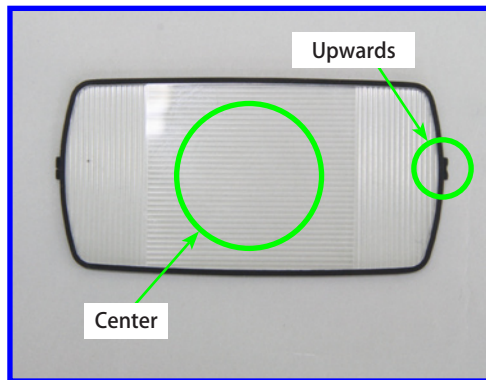

Fig. 027 Orientation of the Flash Panel Ass'y
- Install with the grooves in the center of the Flash Panel Ass'y facing the Flash Head Ass'y side and with the packing rib towards the Flash Head Cover (Upper). (Fig. 027)